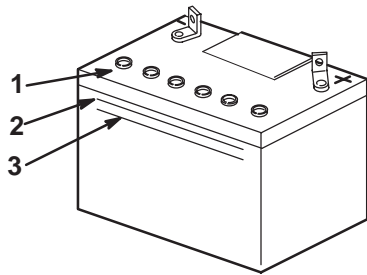

Figure 65
2. Look at the side of the battery. The electrolyte must be up to the **upper** line (Fig. 65). Do not allow the electrolyte to get below the **lower** line (Fig. 65).
3. Remove the vent caps from the battery (Fig. 65).
4. Slowly pour distilled water into each battery cell until the level is up to the **upper** line (Fig. 65) on the battery case.
5. Wait five to ten minutes after filling the battery cells. Add distilled water, if necessary, until the electrolyte level is up to the **upper** line (Fig. 65) on the battery case.